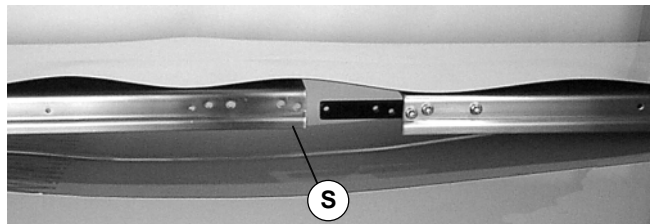

Figure 6
4. Place conveyor frame (S of Figure 6) into belt loop.